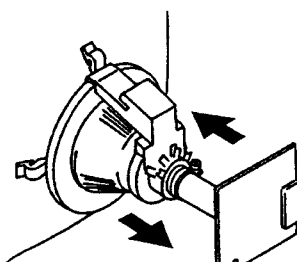

Fig. 1
5. Move the deflection yoke forward, and adjust so that entire screen becomes green. (Fig.1)